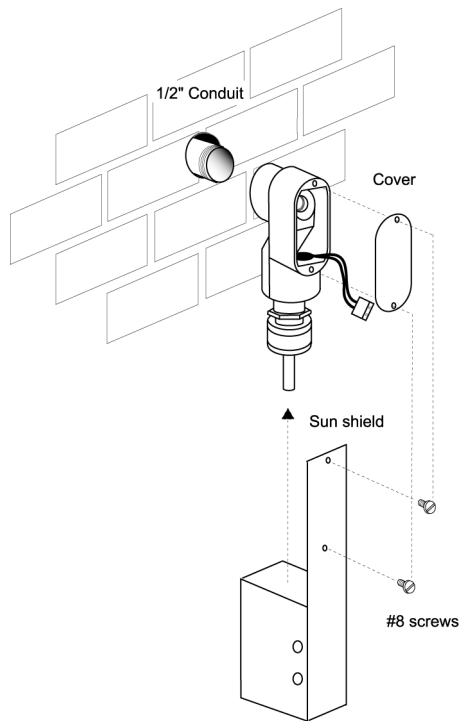

Figure 3. Installing the TE 706 A Sensor
4. Reattach the gasket and sun shield to the case and tighten the screws. See Figure 3.